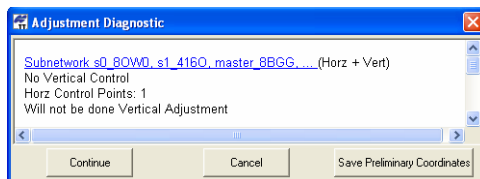

Figure 6-20. Only Horizontal Control Point(s)
- If only horizontal control point(s) are found, the adjustment process stops and the *Adjustment Diagnostic* dialog box will display (Figure 6-20). Click **Continue** to perform ONLY a horizontal adjustment of the network.